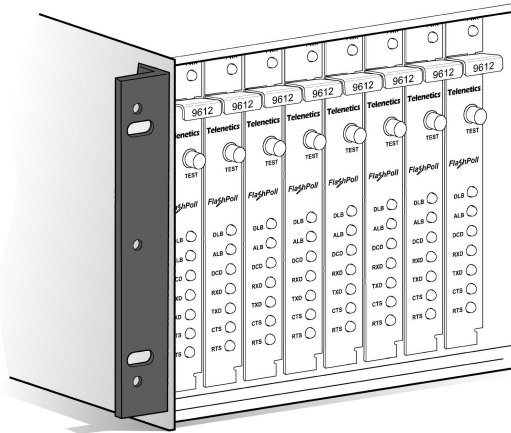

Figure 2-4. Modems Installed in the Rack
6. Push firmly on the modem to seat it properly into the slot and backplane. The back of the Universal Data Shelf contains the connectors for interfacing to the Data Terminal Equipment and communications line. Figure 2-4 shows how the modems look when installed in the rack.